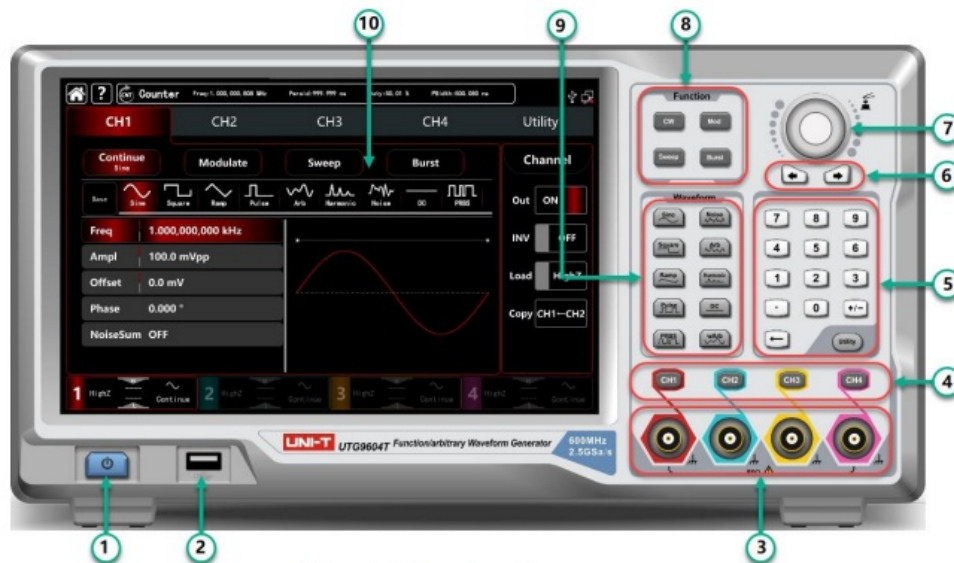

Figure 2-1 Front Panel Structure
- UTG9000T series function/arbitrary waveform generator front panel is sample, visual and easy to use. See Figure 2-1